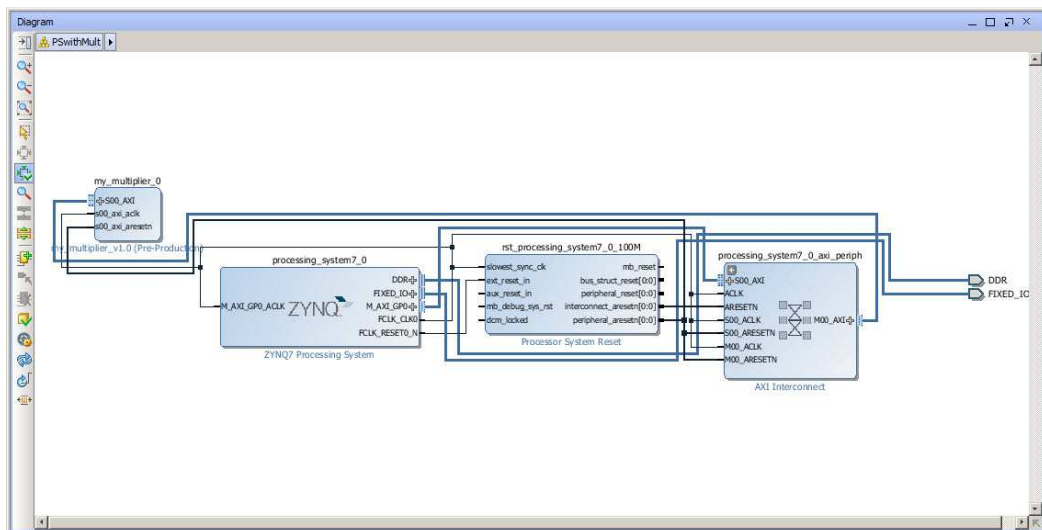

Figure 32: The Final Block Diagram
- The new block diagram should like **Figure 32**.